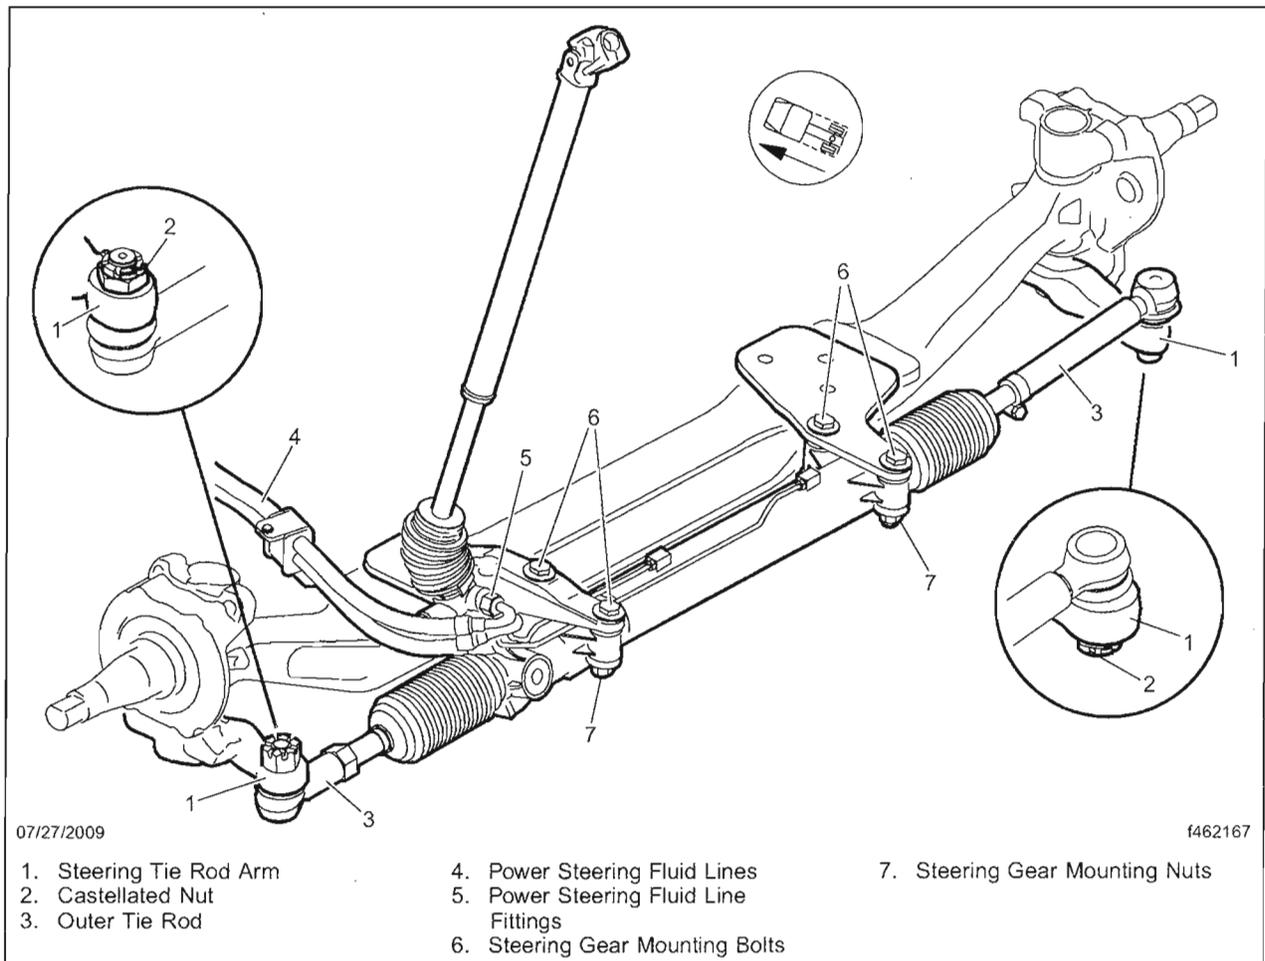

Fig. 6, Rack and Pinion Steering Gear Assembly
24. Using new mounting bolts and nuts (Fig. 6, Items 6 and 7), install the steering gear on the axle. Tighten the fasteners 229 lbf-ft (311 N·m).